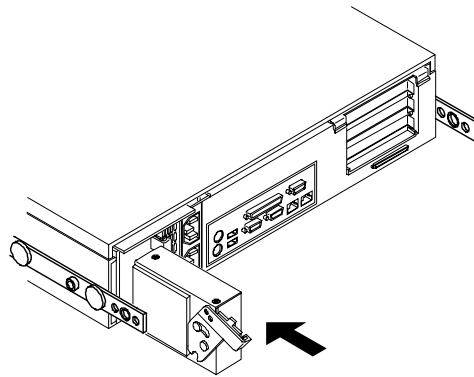

Figure 9-7. Inserting the Power Supply Filler Panel
- b. Slide the filler panel into the power bay. See Figure 9-7.